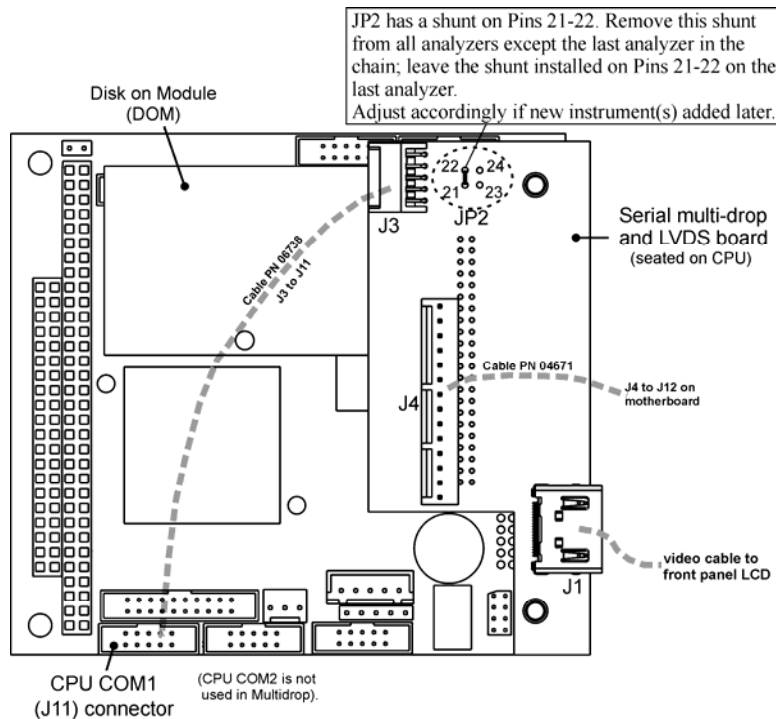

Figure 5-3: Jumper and Cables for Multidrop Mode
In each instrument with the Multidrop option there is a shunt jumpering two pins on the serial Multidrop and LVDS printed circuit assembly (PCA), as shown in Figure 5-3. This shunt must be removed from all instruments except that designated as last in the multidrop chain, which must remain terminated. This requires powering off and opening each instrument and making the following adjustments:
2. On the Multidrop/LVDS PCA's JP2 connector, remove the shunt that jumpers Pins 21 ↔ 22 as indicated in Figure 5-3. (Do this for all but the last instrument in the chain where the shunt should remain at Pins 21 ↔ 22).
3. Check that the following cable connections are made in *all* instruments (again refer to Figure 5-3):